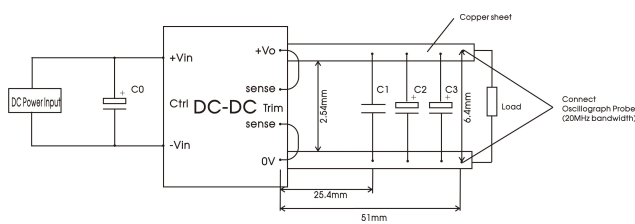

Fig.1
Note: ①For ripple and noise measuring method, please refer to Fig. 1.
All the DC-DC converters of this series are tested before delivery using the recommended circuit shown in Fig. 1.